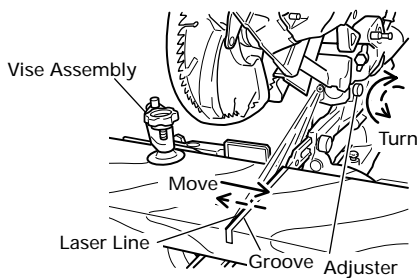
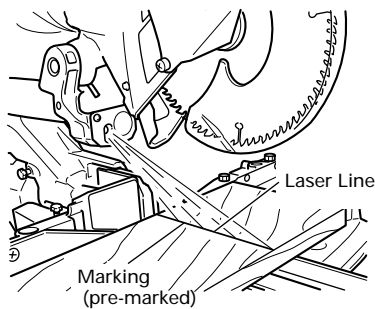

Fig. 20
Fig. 21
(1) Light up the laser marker and make a groove of about  $3/16$ " (5mm) deep on the workpiece that is about  $25/32$ " (20mm) in height and  $5-29/32$ " (150mm) in width. Hold the grooved workpiece by vise as it is and do not move it. For grooving work, refer to "11.Groove cutting procedures" on page 25.
(2) Then, turn the adjuster and shift the laser line. (If you turn the adjuster clockwise, the laser line will shift to the right and if you turn it counterclockwise, the laser line will shift to the left.) When you work with the ink line aligned with the left side of the saw blade, align the laser line with the left end of the groove. (Fig. 20) When you align it with the right side of the saw blade, align the laser line with the right side of the groove.
(3) After adjusting the position of the laser line, draw a right-angle ink line on the workpiece and align the ink line with the laser line. When aligning the ink line, slide the workpiece little by little and secure it by vise at a position where the laser line overlaps with the ink line. Work on the grooving again and check the position of the laser line. If you wish to change the laser line's position, make adjustments again following the steps from (1) to (3).
**NOTE:** Check and make sure on a periodic basis if the position of the laser line is in order. As regards the checking method, draw a right-angle ink line on the workpiece with the height of about  $25/32$ " (20mm) and the width of  $5-29/32$ " (150mm), and check that the laser line is in line with the ink line [The deviation between the ink line and the laser line should be less than the ink line width (0.5mm)]. (Fig. 21)